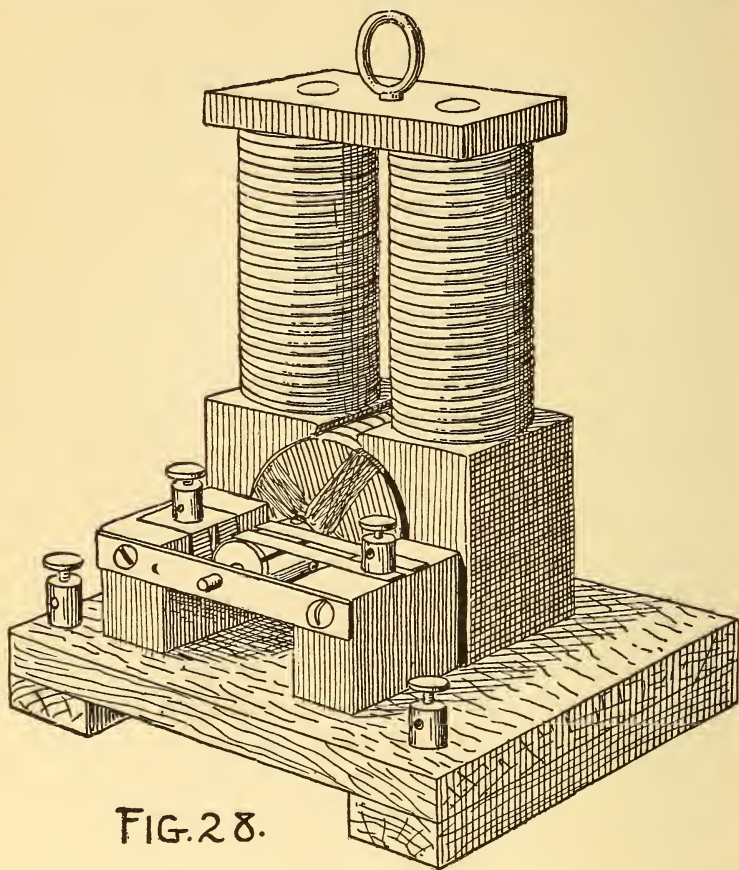
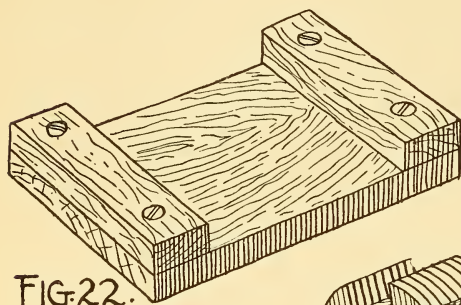

FIG. 28.
FIG. 22.
From hard-wood half an inch in thickness cut a base, six by seven inches, and two strips an inch wide and five inches long. With glue and screws driven up from the underside of the strips fasten them to the base, as shown at Fig. 22. Then make the field-magnets fast to the base with long machine-screws, using washers under the heads at the underside of the base-board. The mounting should then appear as shown in Fig. 28.
serted from the back into the strip (G) in Fig. 21. Then the back strip (D) is screwed in place. The armature, when properly mounted, should revolve freely and easily within the field-lugs without friction, and the lugs must by no means touch the armature. From thin spring-copper brushes may be cut and mounted on the block under the binding-posts, so that one will rest on top of the commutators while the other presses up against the underside. The wiring is then to be placed on the field-magnets. This is carried out as described for the electric magnets on pages 54-58 of chapter iv., each core receiving five or seven layers, or as much as it will hold without overlapping the lug or yoke. The ends of the wires are connected as shown at Fig. 14 or Fig. 15, the ends being carried down through the base and up again in the right location to meet the foot of a binding-post. The complete dynamo will appear as shown in Fig. 28.